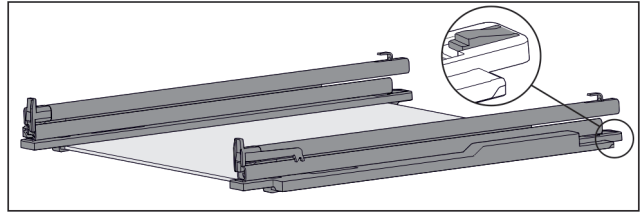

Fig. 115 Glass shelf with rails and retaining parts
- ▶ Press down retaining part at the rear (see Fig. 115) and at the same time push the rail back.